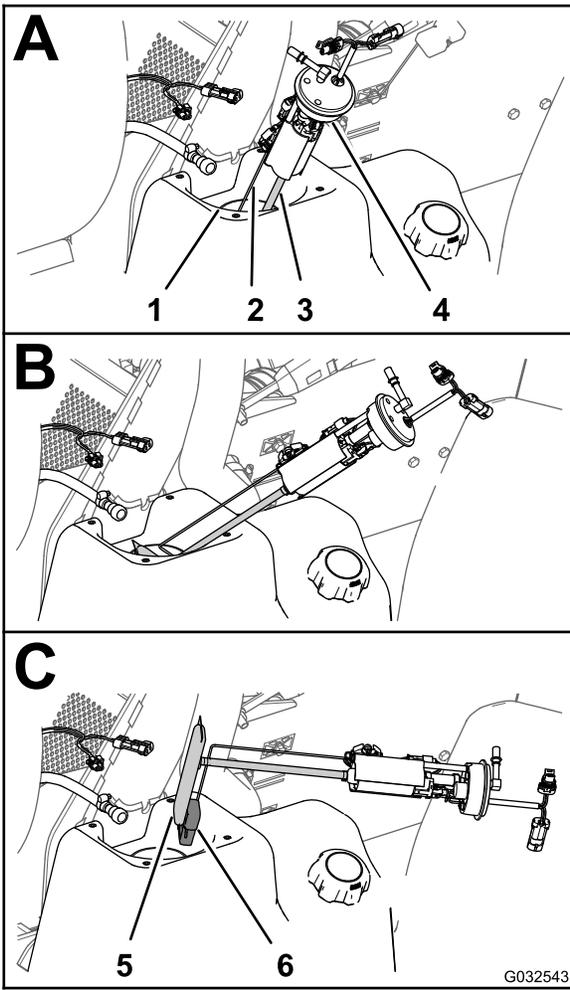
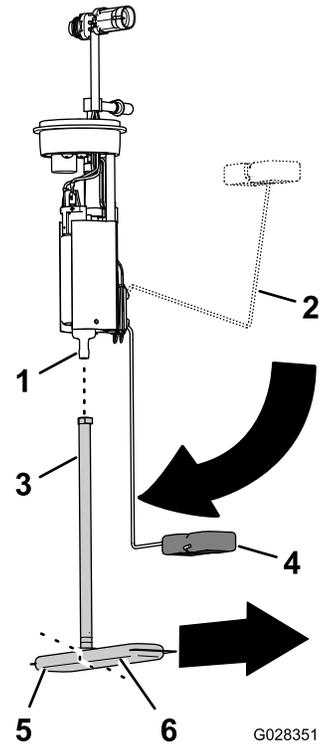

Figure 84
Figure 85
4. Carefully lift and rotate the fuel pump/sending unit out of the neck of the fuel tank (Figure 84).
1. Remove the pickup tube of the fuel filter from the fitting of the fuel pump (Figure 85).
2. Align the pickup tube of the new fuel filter with the fitting of the fuel pump (Figure 85).
3. Align the long leg of the fuel filter with float when the float arm is in the empty position (Figure 85).
4. Insert the fuel-pump fitting into the pickup tube until the fitting is fully seated (Figure 85).
1. Support the float arm and pickup tube together and slip the float and fuel filter into the opening in the fuel tank (Figure 84).
2. Seat the fuel pump/sending unit into the opening in the tank (Figure 84 and Figure 85).
3. Install the seal and nut over the fuel pump/sending and onto the neck of the fuel tank and tighten the nut hand tight (Figure 84).
4. Connect the coupling on the fuel hose to the fitting of the fuel pump (Figure 84).
5. Connect the 2-socket connector of the machine-wiring harness to the 2-pin connector of the fuel pump/sending unit; Connect the 2-pin connector of the machine-wiring harness to the 2-socket connector of the fuel pump/sending unit (Figure 84).